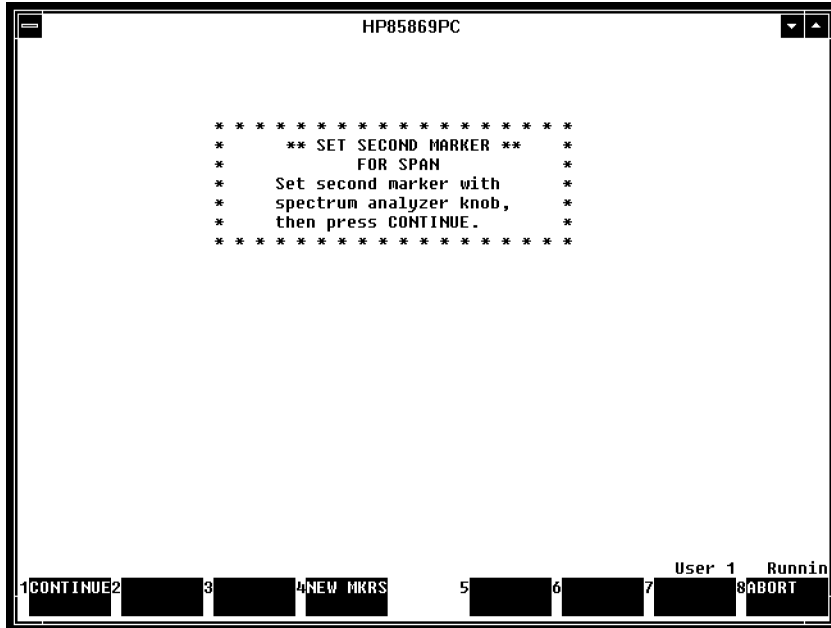

Figure 7-30. Setting Second Marker for Average Measurement - Over Span
5. After setting the first marker on the spectrum analyzer display, a second prompt (similar to Figure 7-30) on the computer display asks you to set another marker. Again, use the spectrum analyzer’s DATA RPG knob to place a marker somewhere on the display, in the same frequency range, then press the **CONTINUE** softkey. This marker sets the second end of the range that you are analyzing. For faster results, indicate the smallest range possible.